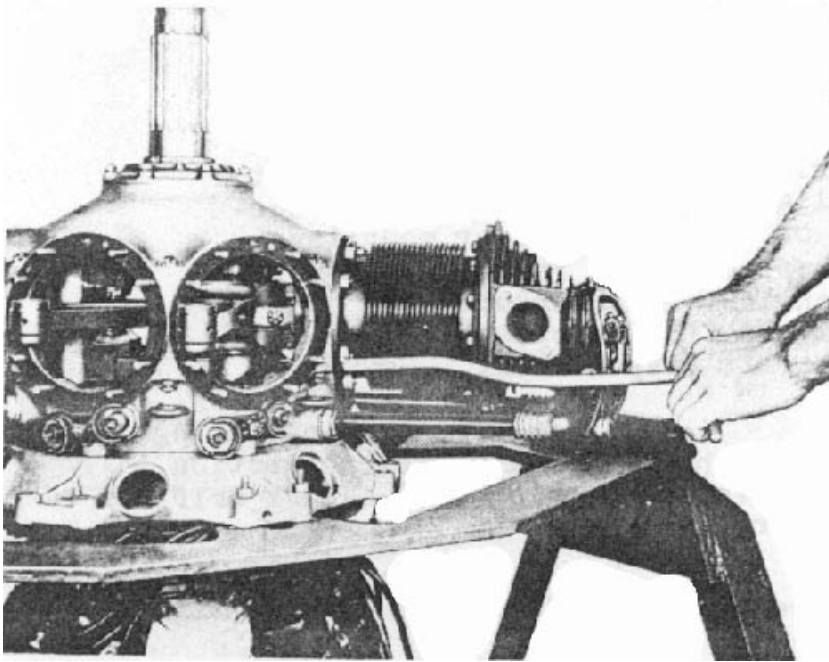

Figure 6 - Removing Cylinder Base Hold Down Nuts and Palnuts
(1) Remove all rocker box covers which are retained by spring clips.
(2) Remove all of the intake pipe retaining nuts and lockwashers.
(3) Remove intake pipes, springs, glands and packings.
(4) Using special cylinder base palnut wrench, No. FA-11238, remove the palnuts from the cylinder hold-down studs. See Figure 6.
(5) In removing the cylinders, the No.1, or Master rod cylinder, is the last one to be removed.
(6) Before removing the cylinder from the crankcase, bring the piston in that cylinder to the top of its stroke. This can be done by rotating the crankshaft until the piston can be observed through the spark plug hole to be at the top of its stroke.
(7) Turn the crankshaft until the No.2 piston is at the top of its stroke.
(8) Remove cylinder hold-down nuts with cylinder base nut wrench No. FA-33-A, see figure 6. Jiggle cylinder loose and remove push rod tubes and push rod.